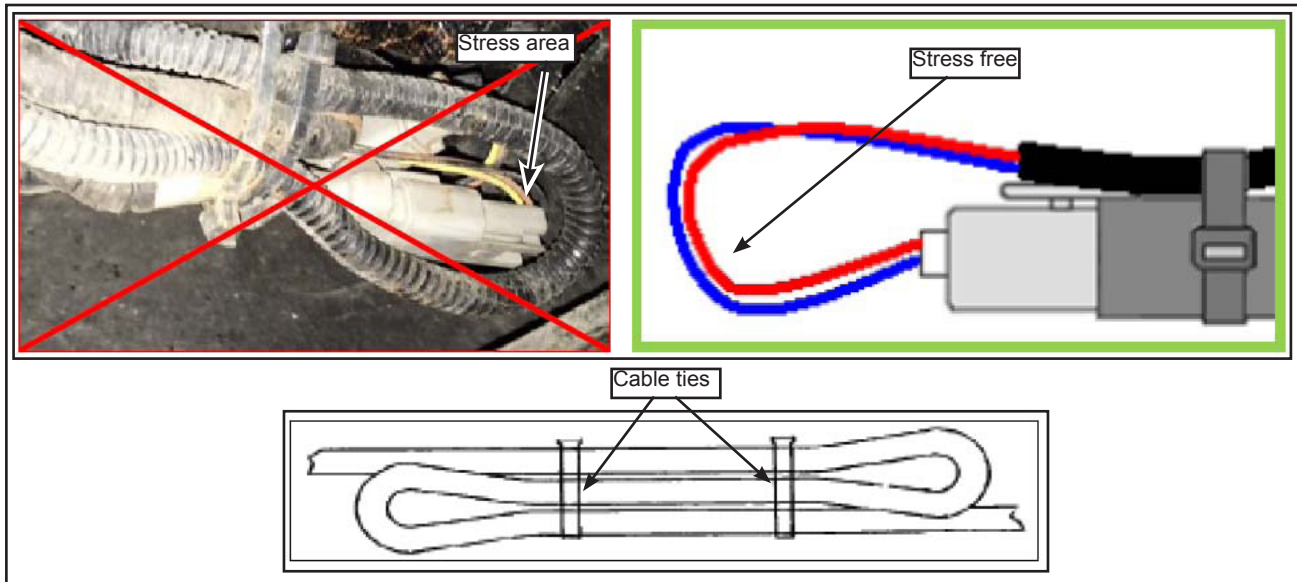

Figure 9 - Secure the Harnesses
- 2.5. Secure the harnesses, free of any wiring stress and with sufficient clearance to avoid any chafing against the structure and/or surrounding parts. Bundle the harness excess length with cable ties (see Figure 9).